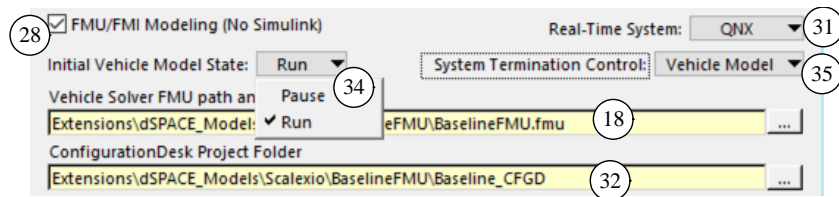

Figure 31. Part of the SCALEXIO screen for an example dataset that makes an FMU file.
Figure 31 shows that when the checkbox ②⑧ is checked to specify that an FMU will be generated, new controls are shown (③④ and ③⑤), and the Simulink field is replaced with a field is used to specify a pathname for the FMU ③⑧.